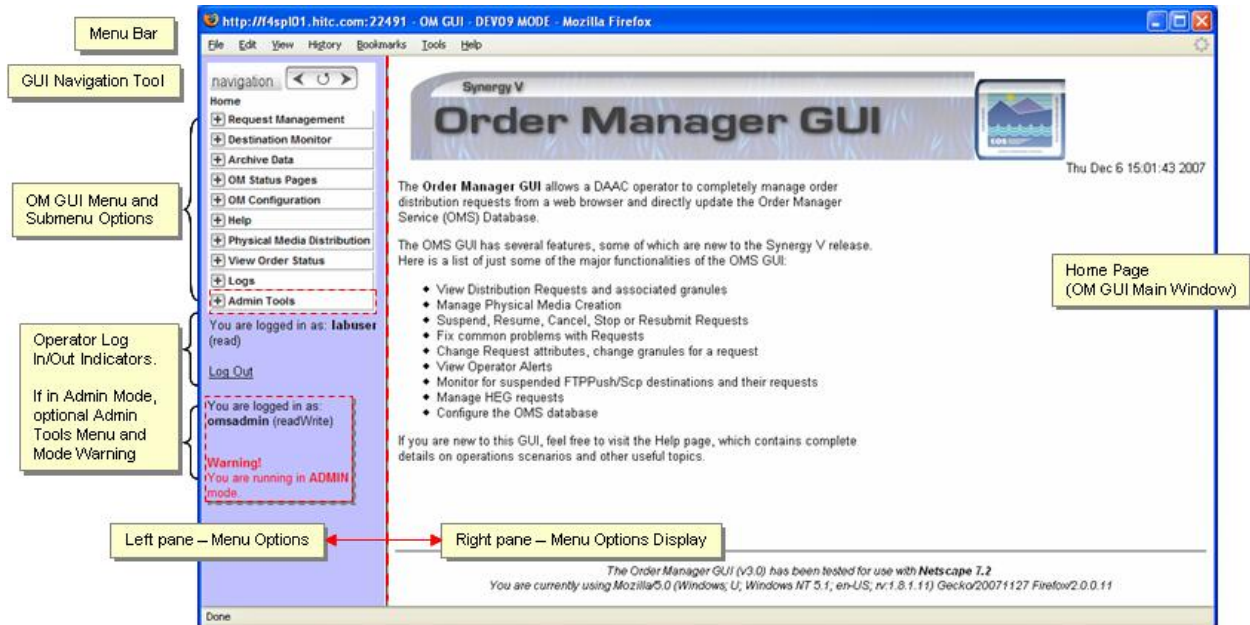

Figure 15.4-2. Order Manager Home Page
- The **Order Manager GUI** Home Page (Figure 15.4-2) displays.